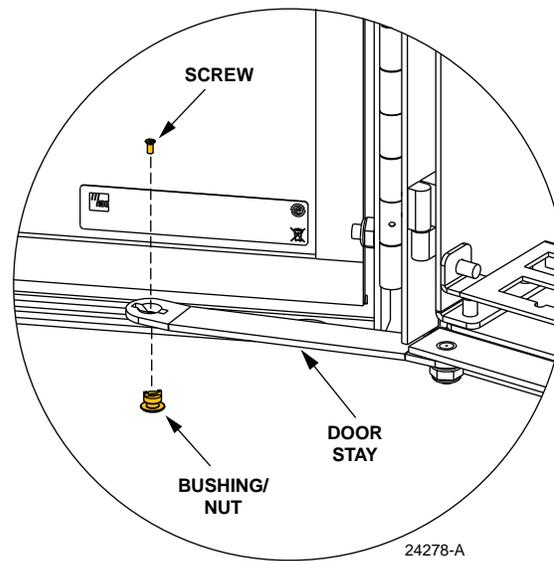

Figure 69. Door Linkage Hardware
3. Use a Phillips screwdriver to remove the screw and bushing/nut that secures the door stay to the bottom of the door as shown in Figure 69. Save the screw and bushing/nut for reuse.